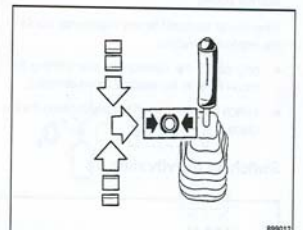

Fig. 40
- Push the travel lever (Fig. 40) to the right into parking brake position.